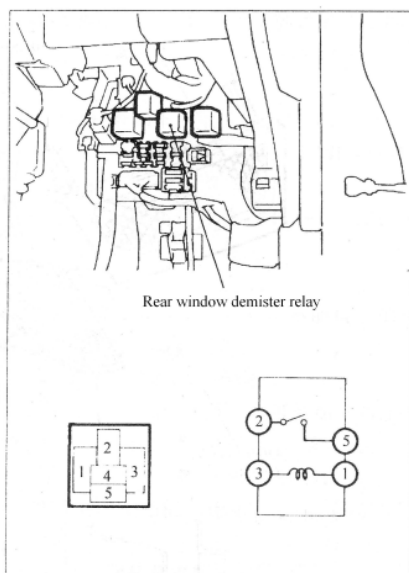

Fig. 20-43
2、Rear window demister relay continuity check (see Fig. 20-43)